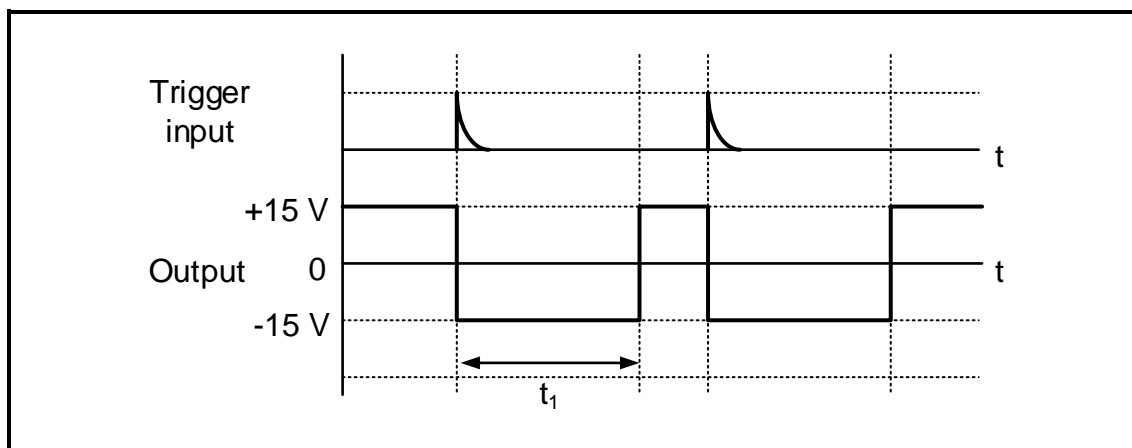

FIGURE 2.3: MONOSTABLE WAVEFORMS
- 2.3 FIGURE 2.3 below shows the typical waveforms of a 741 op amp connected as a monostable multivibrator. Answer the questions that follow.